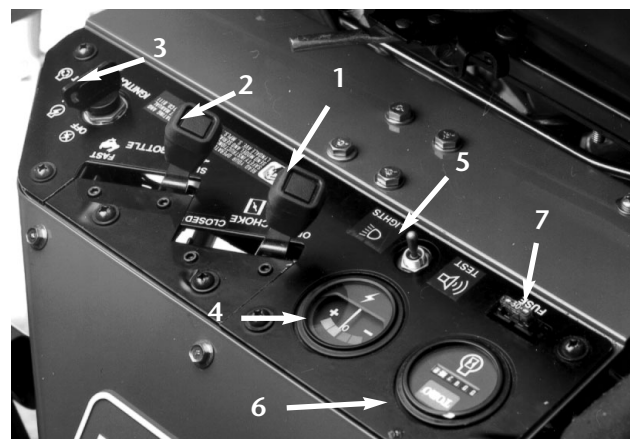

Figure 13
**THROTTLE CONTROL** (Fig. 13)—The throttle controls the engine speed. Moving the throttle control toward FAST increases engine rpm; moving the throttle toward SLOW decreases engine rpm.
**CHOKE** (Fig. 13) —To start a cold engine, close the carburetor choke by moving the choke control forward to the CLOSED position. After the engine starts, regulate the choke to keep the engine running smoothly. As soon as possible, open the choke by pulling it rearward to OPEN. A warm engine requires little or no choking.
**IGNITION SWITCH** (Fig. 13)—Insert the key into
**VOLTMETER** (Fig. 13)—The ammeter shows the electrical system voltage.
**FUSE** (Fig. 13)—The 10-amp fuse is part of the electrical circuit.
**LEAK DETECTOR TEST/LIGHT SWITCH** (Fig. 13) From the middle operating position, move the switch rearward to check the operation of the leak detector alarm and time delay. Move the switch forward to operate optional headlights.
**HOUR METER** (Fig. 13)—Shows the total hours of machine operation. The hour meter starts whenever the key switch is turned to **ON**.
**SEAT ADJUSTING HANDLE** (Fig. 13)—Located on the left side of the seat, this lever allows four inch fore-and-aft adjustment.